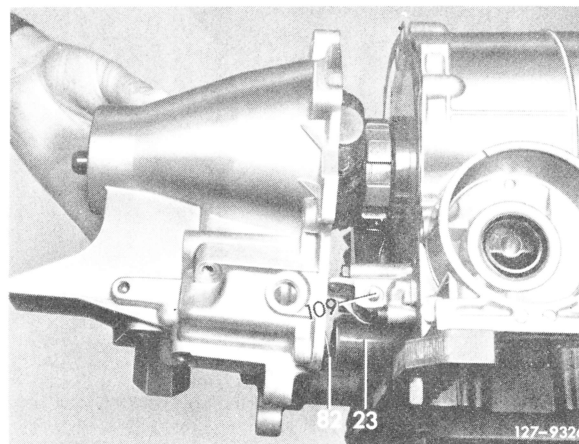

Fig. 42
**68** Push delivery piston for secondary pump outwards and mount transmission case (Fig. 42).